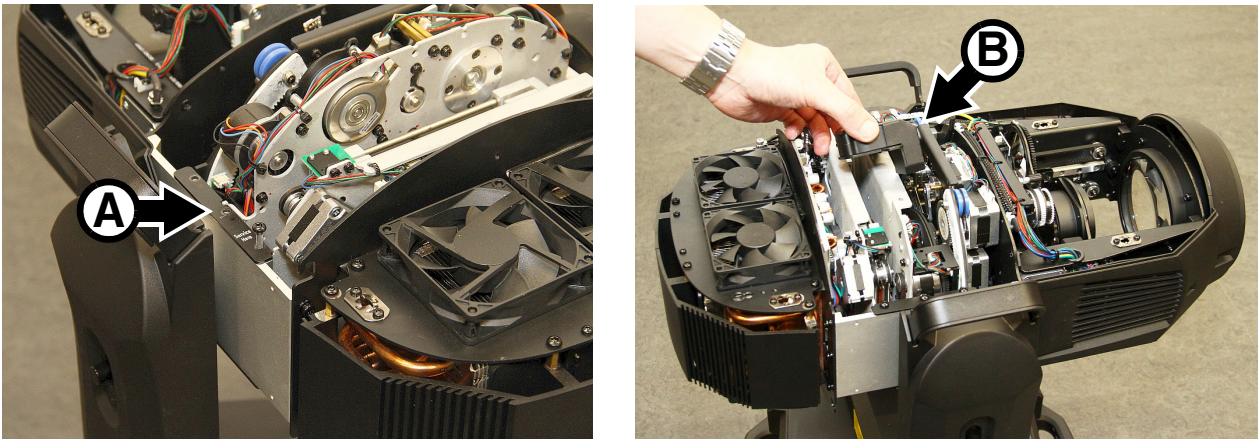

Figure 28: Reinstalling the effects module brackets and cooling fan
13. See Figure 28. Reinstall the effects module retaining plates **A** using the original six Torx screws to fasten them into position.